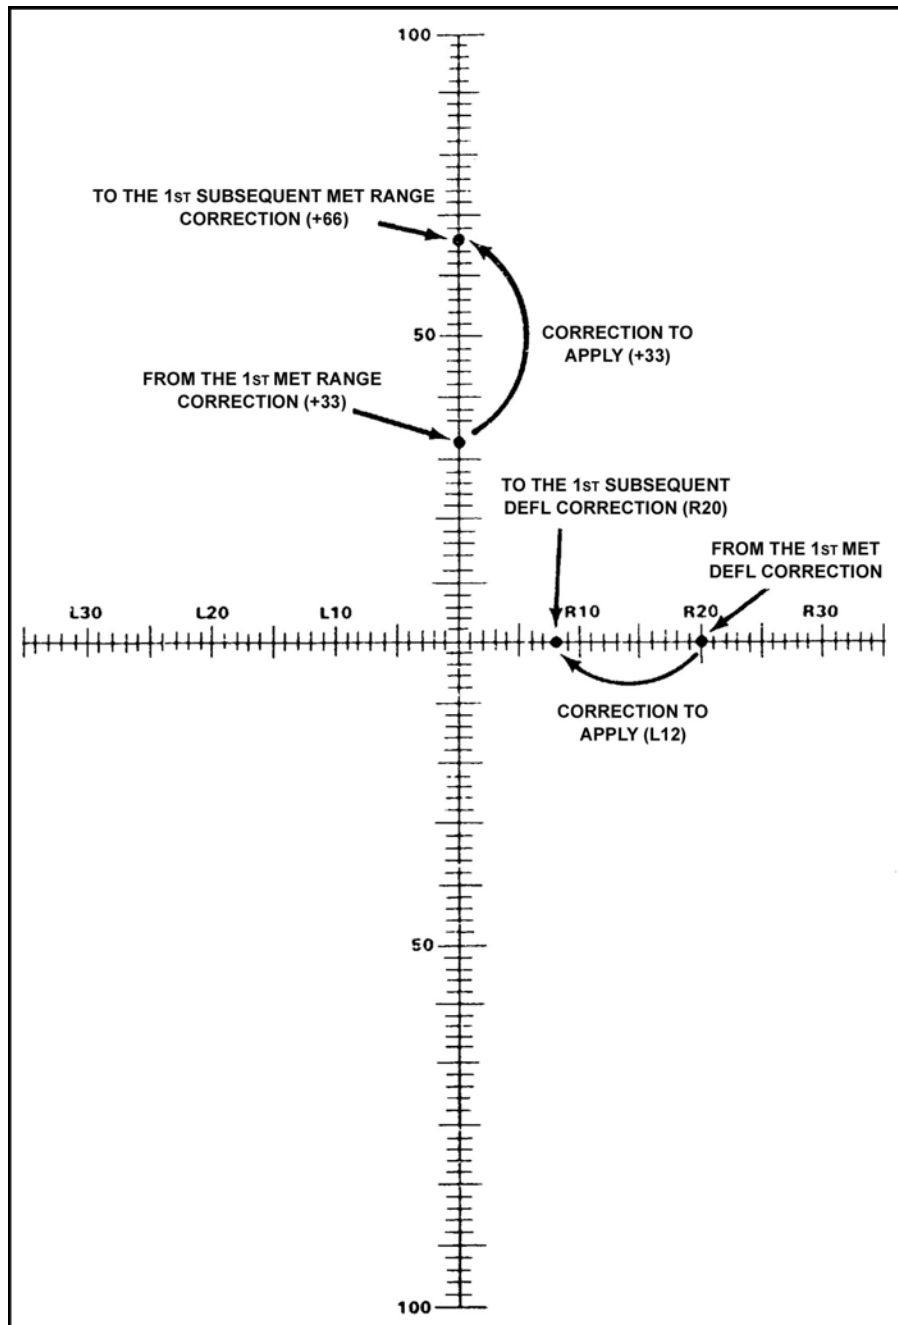

Figure 8. MET Cross
- (7) MET correction. This is the contribution of MET factors at the time the MET was computed in the amount recorded by THIS MESSAGE, here R20, +33. The change in the deflection correction is expressed as the direction and number of mils change from the concurrent MET (R20) to the first subsequent MET (R8). The horizontal scale of Figure 8 illustrates a convenient method for determining the difference, in this case, LEFT 12. The range change is the difference between the range correction for the concurrent MET (+33) and that for the subsequent MET (+66). The vertical scale of Figure 8 shows how to determine the range correction; here, +33. The completed MET CORR TO APPLY section would look like Table 1.